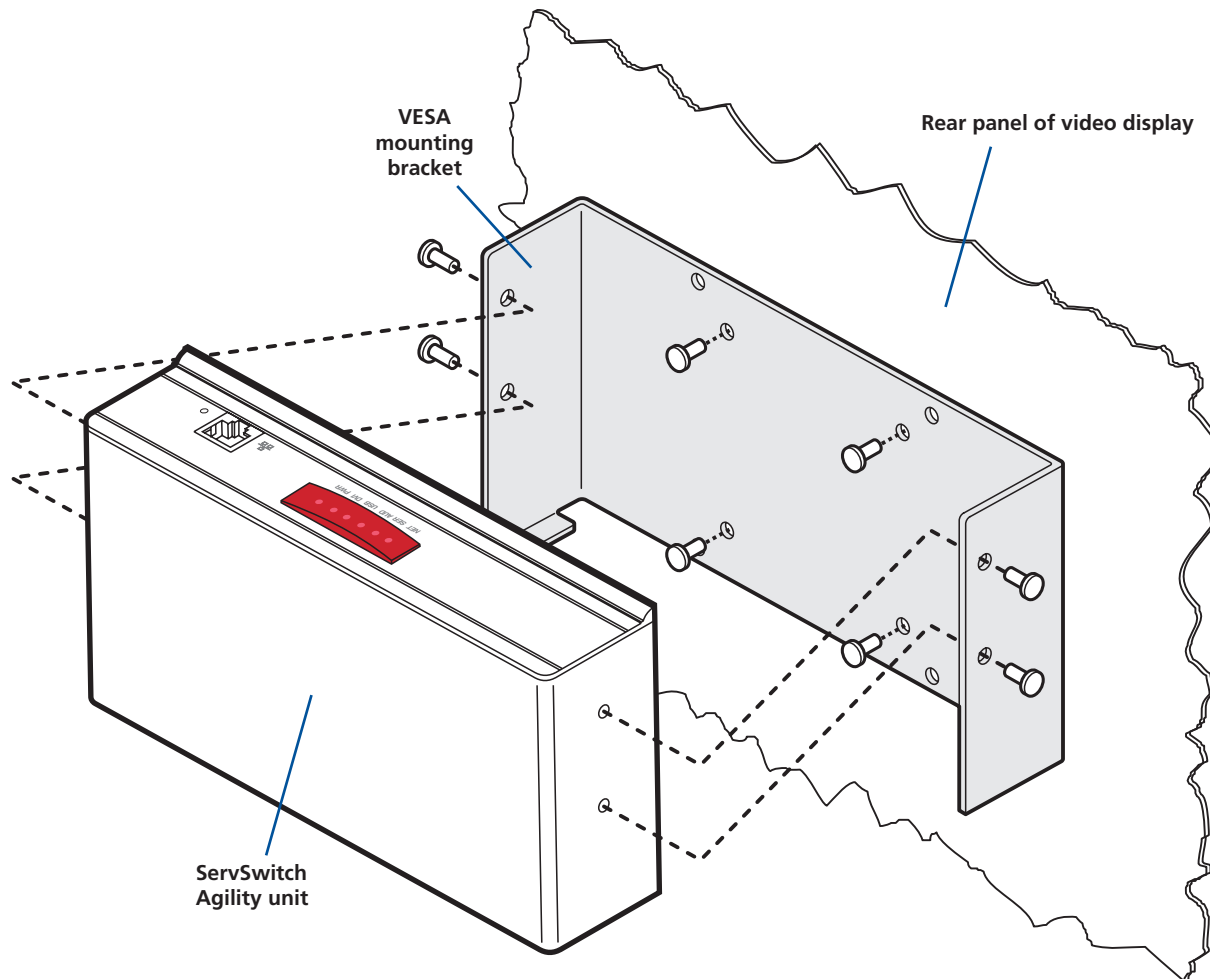

Figure 3-2. VESA mounting bracket.
- 1 Orientate the bracket against the rear of the video display so that its small folded-in tabs are lowermost. See Figure 3-2.